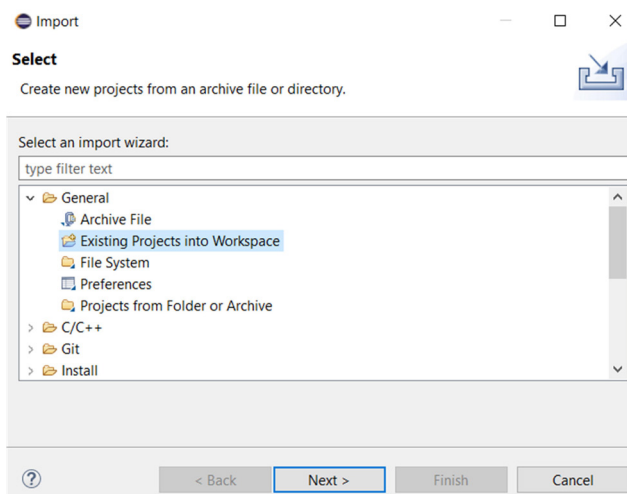

Figure 3.3 Click New and the Maxim Microcontrollers
- Click **File -> Import -> General -> Existing Projects -> Next** (Figure 3.3)